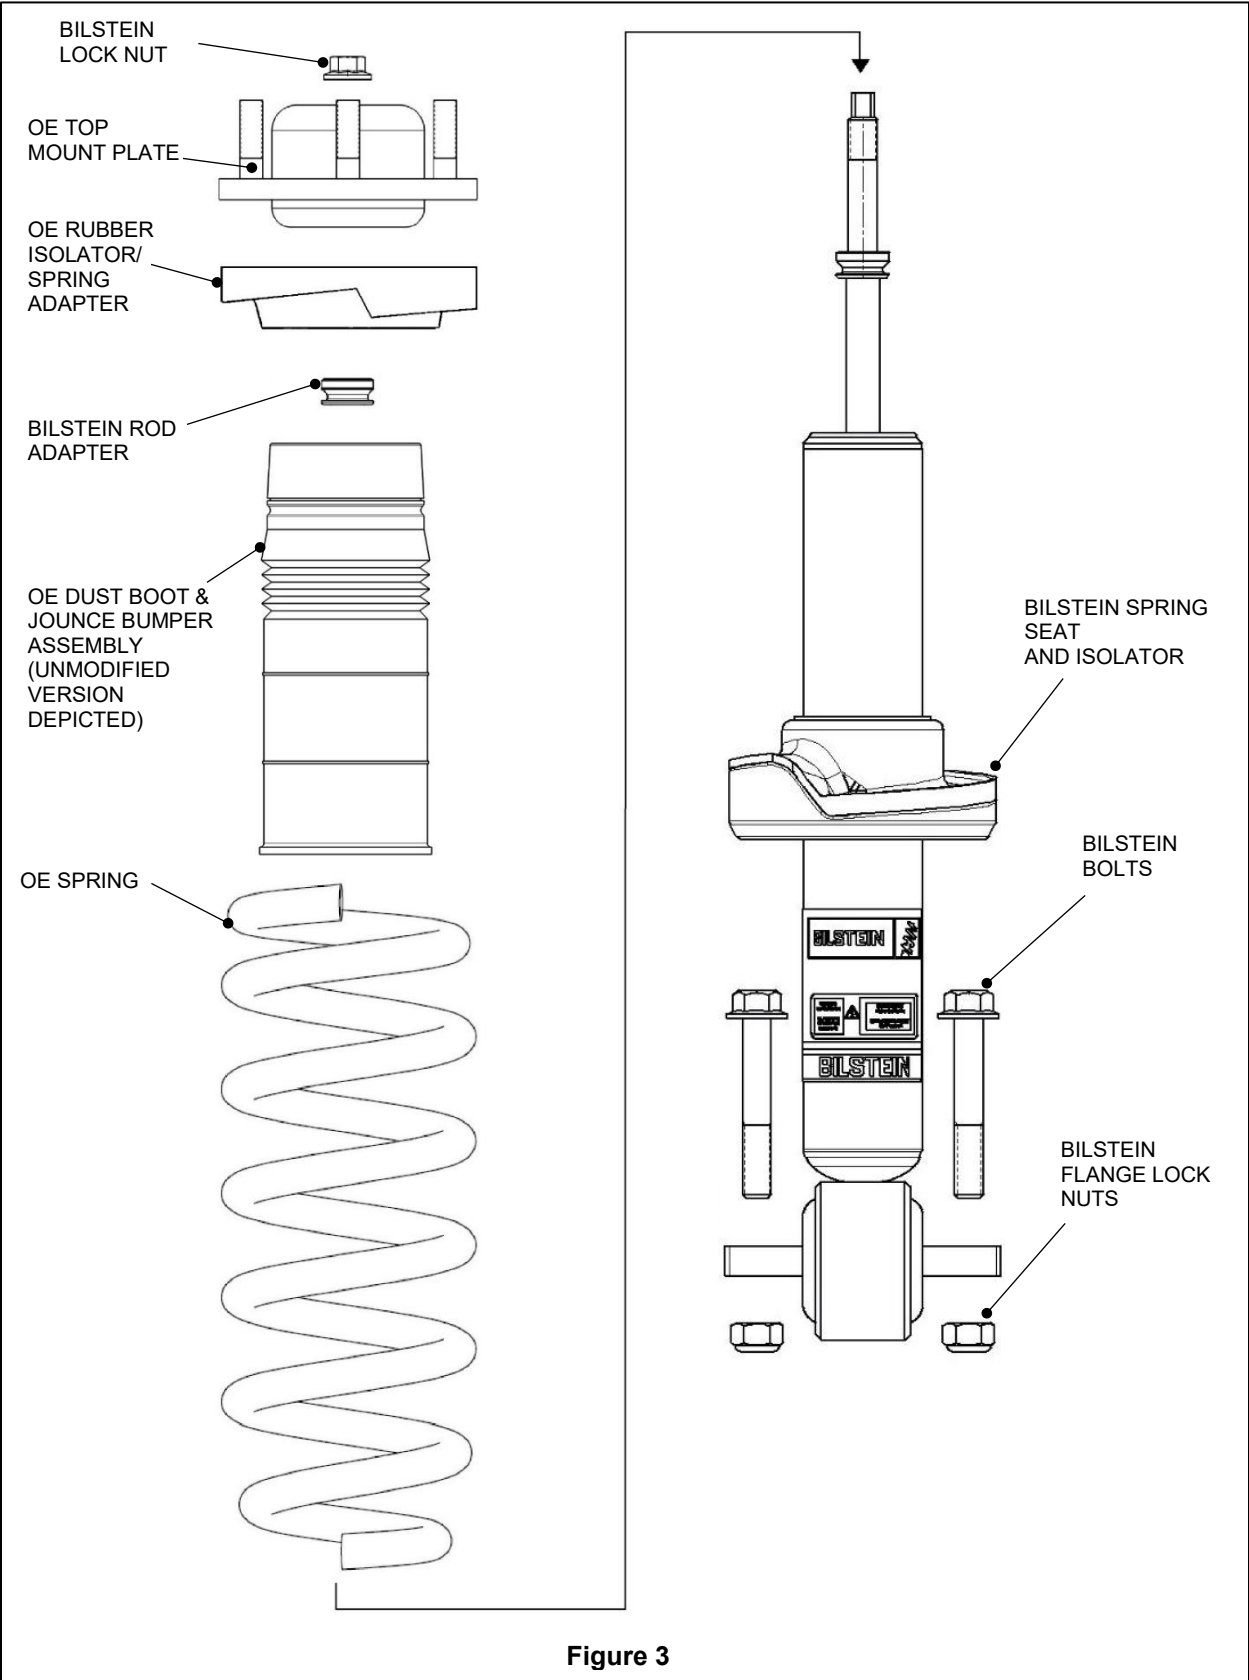

Figure 3
**[Refer to Figure 3 on page 5 for steps I-P]**
- I. Temporarily remove the supplied rod adapter from the Bilstein shock. Then, install the OE dust boot & jounce bumper assembly, the supplied rod adapter, OE rubber isolator/ spring adapter, and OE top mount plate over the threaded stem on the new Bilstein shock and on top of the spring, as shown in Figure 3 on page 5.